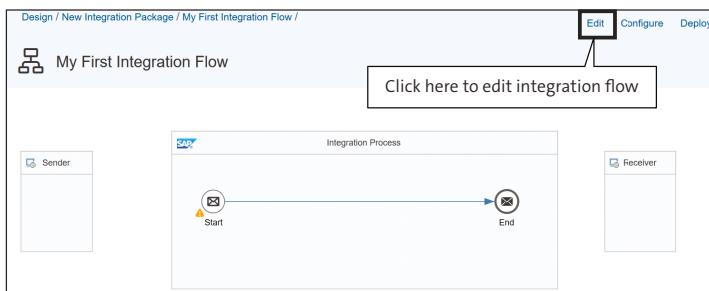

Figure 2.22 Integration Flow Template to Start Modeling
8. When you click the integration flow name (in the **Artifacts** list, see Figure 2.21), the editor opens and shows a template where you can begin modeling (Figure 2.22).
9. Click the **Edit** button shown in Figure 2.22 to start modeling the message flow. You'll notice that a palette becomes visible on the left side of the editing area. Behind this palette, you can select elements that can be added to an integration flow. Before we continue, let's briefly discuss the palette and the available modeling elements.